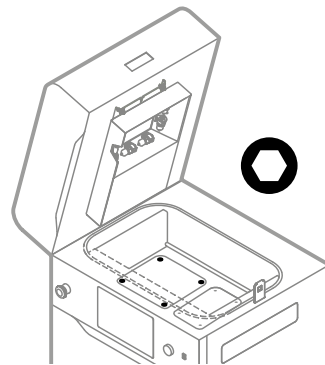

Fig. 12.41 Tighten the four screws securing the Feed Bed cover.
24. Using a 2,5 mm allen key, tighten the four screws securing the Feed Bed cover (fig. 12.41).